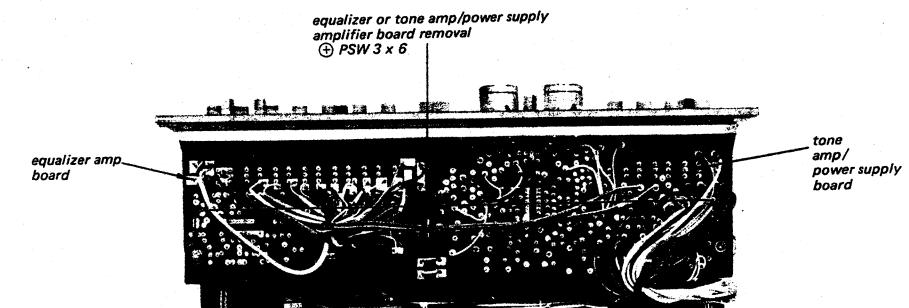

Fig. 2-6. Equalizer and tone amplifier/power supply board removal
2. Remove the three screws (\oplus B 2.6 x 4) securing the 4-key pushbutton switch to the front subchassis as shown in Fig. 2-6.
3. Remove the four screws (\oplus PSW 3 x 6) securing the tone amp/power supply board to the front subchassis as shown in Fig. 2-6. This frees tone amp/power supply board together with tone controls.
2. Remove the screws (\oplus PSW 3 x 6) securing the equalizer amp or the tone amp/power supply amplifier board to its mounting bracket as shown in Fig. 2-6.